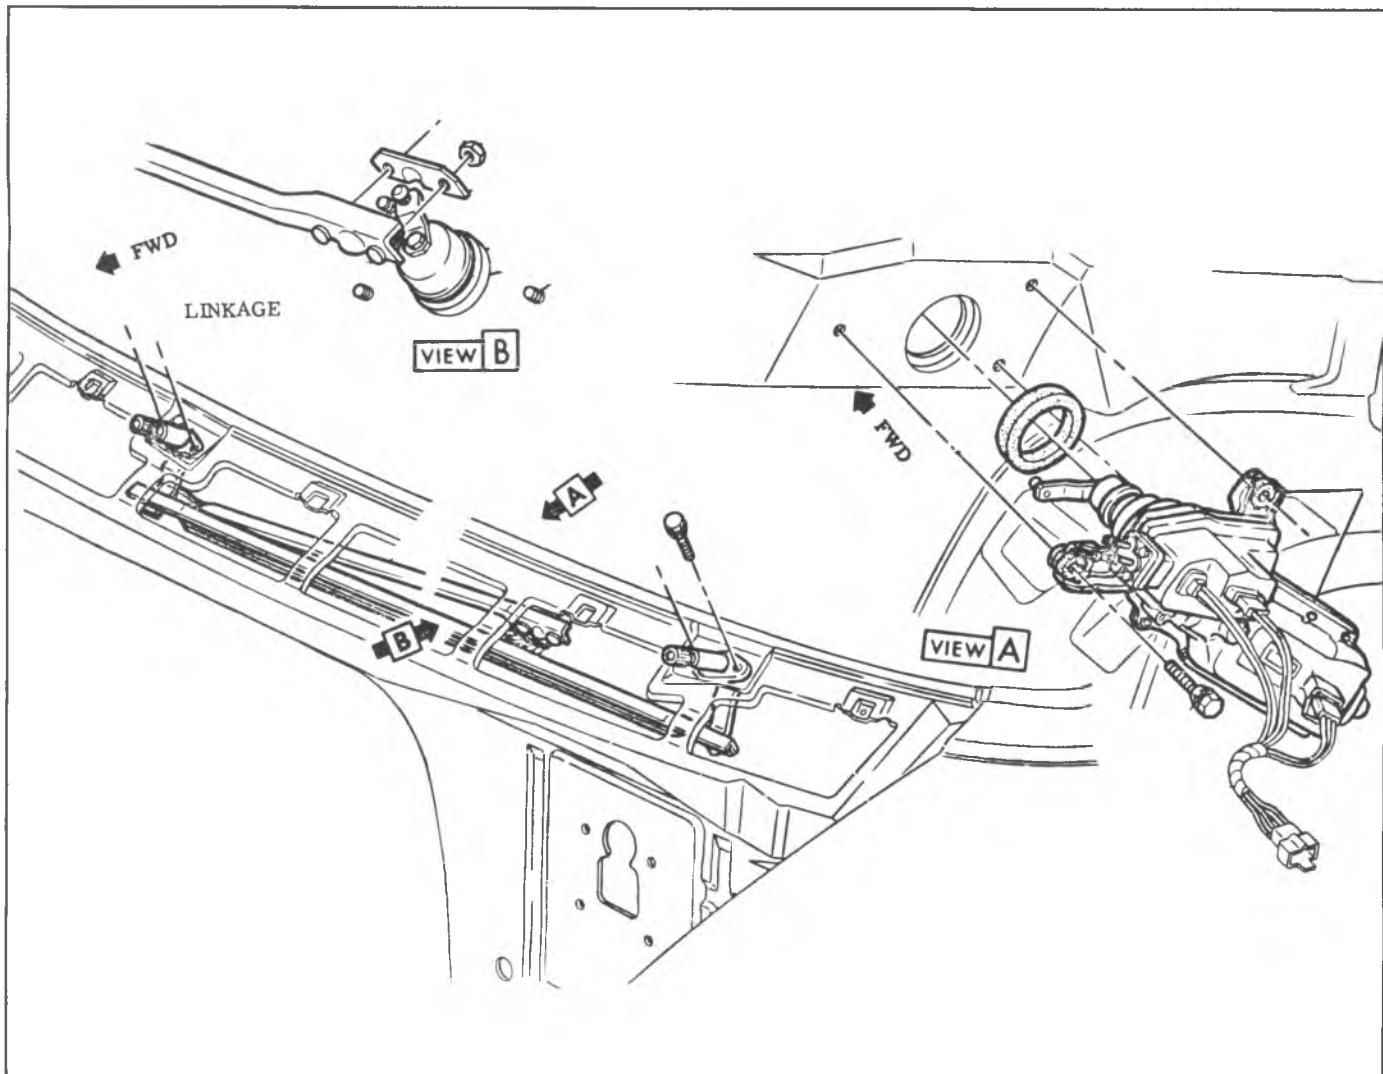

Fig. 8C-18-Wiper Motor (G Series)
1. Release brush spring tension figure 8C-21 and slide brushes back in their respective brush holders.
2. Assemble armature in end cap assembly and re-position brush spring legs behind their respective tabs, figure 8C-22.
3. To maintain the end cap in its assembled position on armature shaft during re-assembly of armature in the wiper housing proceed as follows: Using small wire such as tag wire, tie armature to end cap assembly as shown in figure 8C-23.
CRANK ARM, SPACER, SEAL Refer to Figure 8C-24